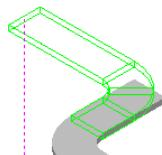

Figure 42: Extending the Cableway
36. Move the cursor to the other end feature to get the northing coordinate as show in Figure 42 and click in the graphic view to place the cableway.